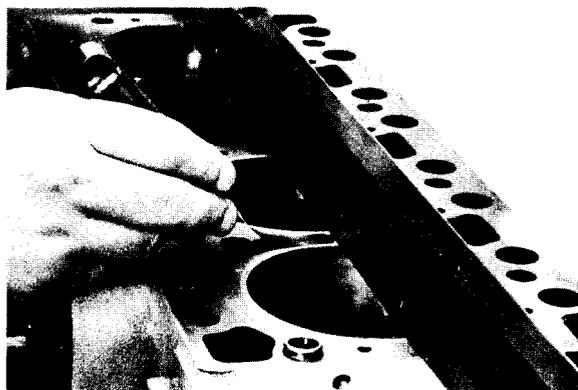

Figure 6-6
9. Using a straight edge and feeler gauge, check top surface for flatness between each cylinder (Figure 6-6). Variation limit is 0.002 in. (0.05 mm).